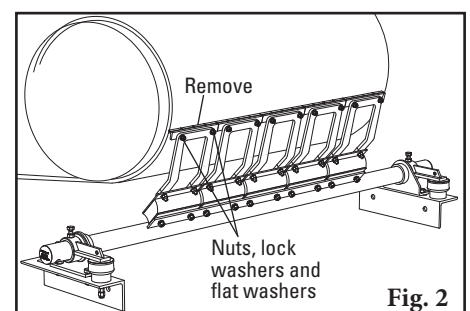

Fig. 2
2. **Remove the worn tips.** Remove the nuts on each tip and remove the tips from the cushion (Fig. 2). Clean all fugitive material from the pole.